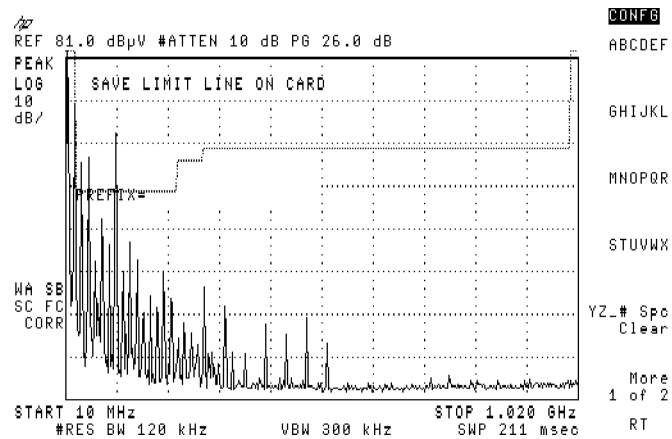

Figure 3-78. Clearing the Prefix
7. Press **Clear** to clear the previous prefix. See Figure 3-78.